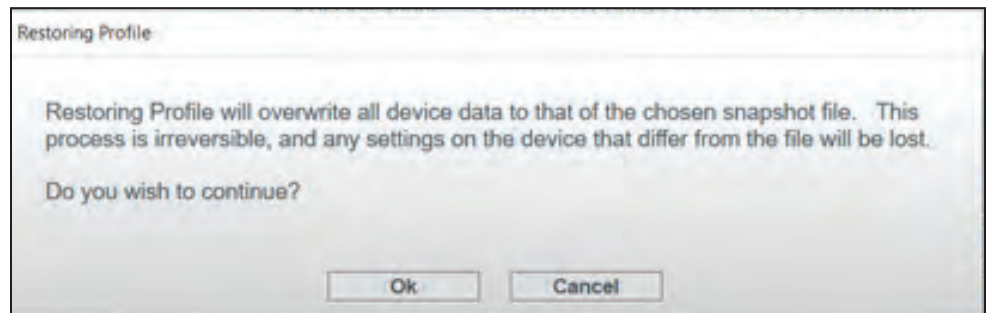

Figure 170. The Restoring Profile dialog box.
**STEP 5.** After selecting the snapshot file, the Restoring Profile dialog box will open. Click on the **OK** button. A “Success” message will appear when the profile restoration is complete. See Figure 170.